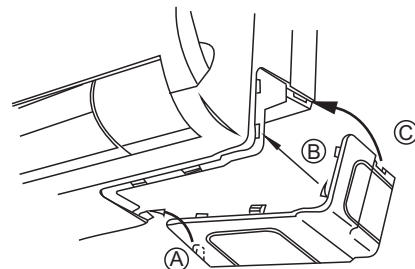

Figure 12
- 4) Install the dismantled bottom cover to indoor unit (figure 12).